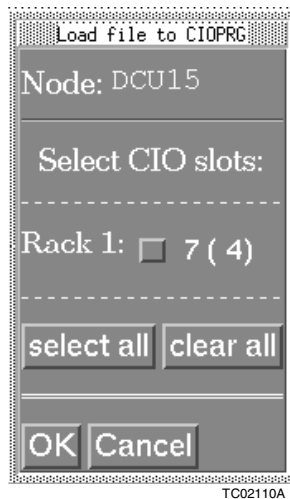

Figure 6-2. Load Program File Selection Window
4. Click *load*. A window will open similar to Figure 6-2.
In Figure 6-2 the Harmony DCU selected from the system status display was DCU15. DCU15 only has one rack and that rack contains only one DIO board. If there were two racks and more DIO boards, all would be shown on this window. The single DIO board in DCU15 is in slot seven, rack one. The logical number of the DIO board is shown in parenthesis after the slot number. The logical number of the DIO board is four.